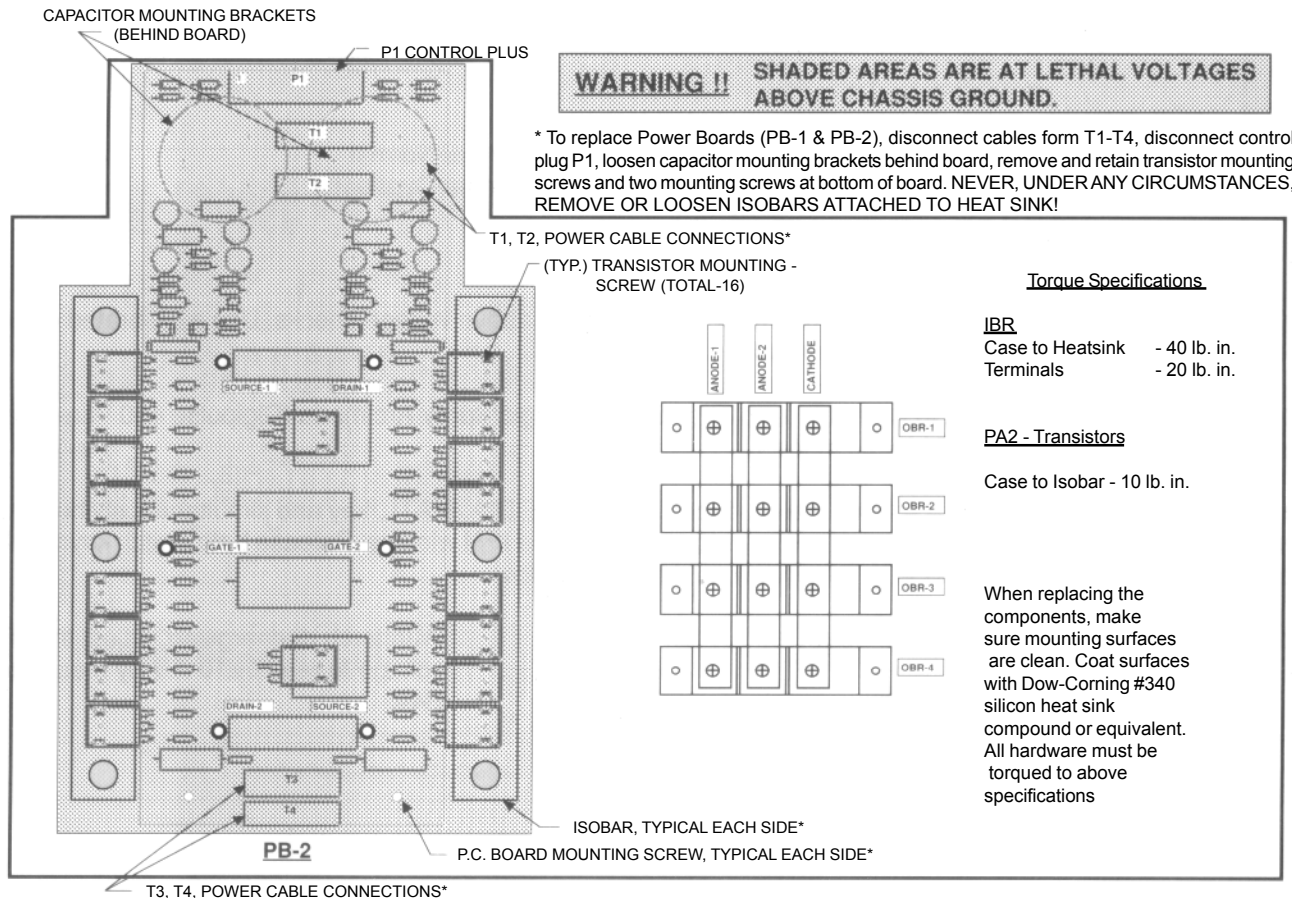

Figure 5-2. Right Side Power/Control Components (PB-2, OBR-1,2,3,4)
E. Output Bridge, OBR, Troubleshooting (See Figure 5-2)